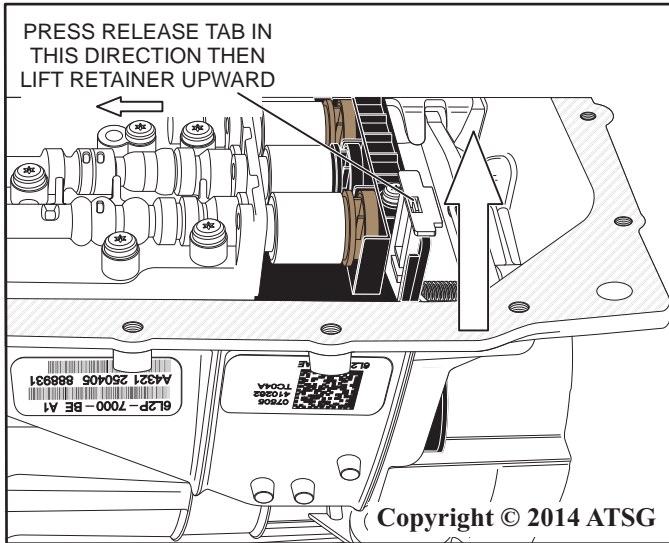

Figure 37
7. Press in on the release tab and lift up on the bulkhead electrical connector retainer to release the bulkhead electrical connector sleeve as shown in Figure 37.